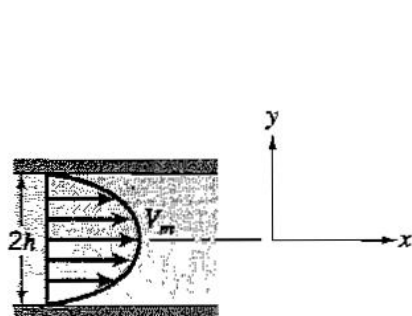

Figure P3.22
3.22 Figure P3.22 shows a two-dimensional flow of a constant density fluid between parallel plates a distance $2h$ apart. The velocity distribution is given by $V = V_m (1 - y^2/h^2)$, where V_m is the maximum velocity. Find the average velocity and the mass flow rate.